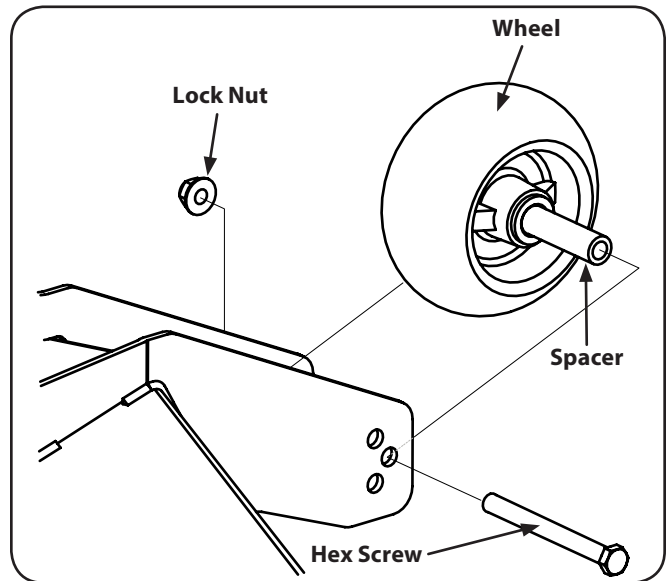

Figure 6-7
- Remove the lock nut securing one of the front gauge wheel hex screws to the deck. Remove the gauge wheel, hex screw and spacer. See Figure 6-7.